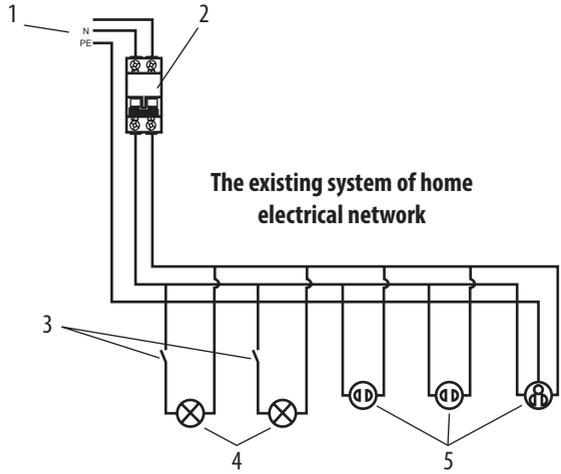

Fig 2
1. When connecting the power cable to the main ATS unit, please install the circuit breaker for ATS system protection (indicated in the diagram Fig. 2).